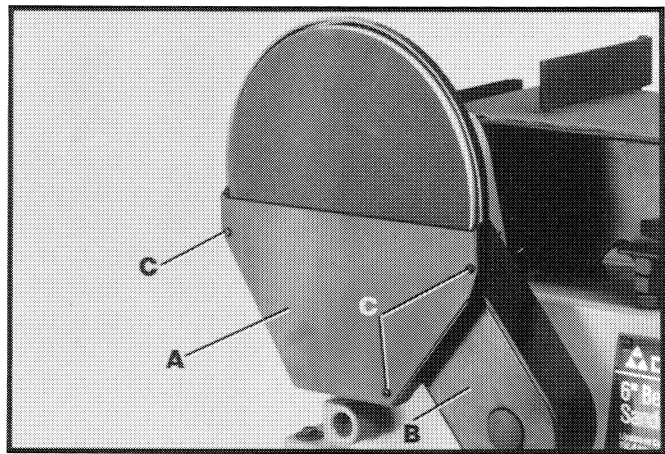

Fig. 13
Assemble lower cover (A) Fig. 13, to belt and pulley guard (B) using three M4.2 x 13mm pan head screws (C).